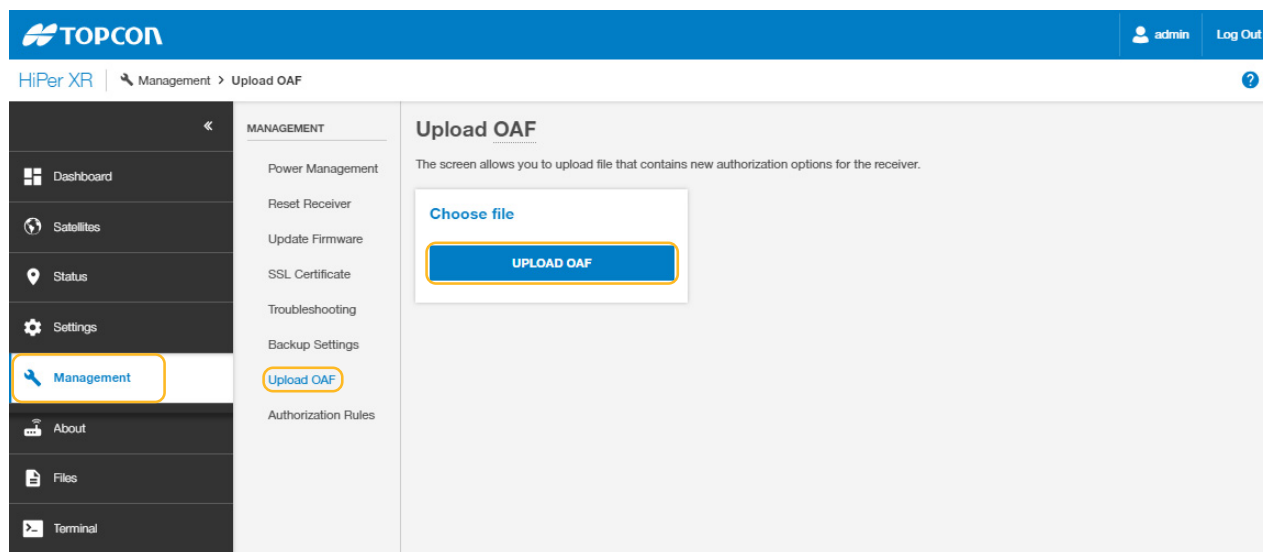

Figure 2-17: Load an OAF
1. Connect the HiPer XR GNSS receiver to a field controller or computer and open the on-board web UI (Figure 2-17).